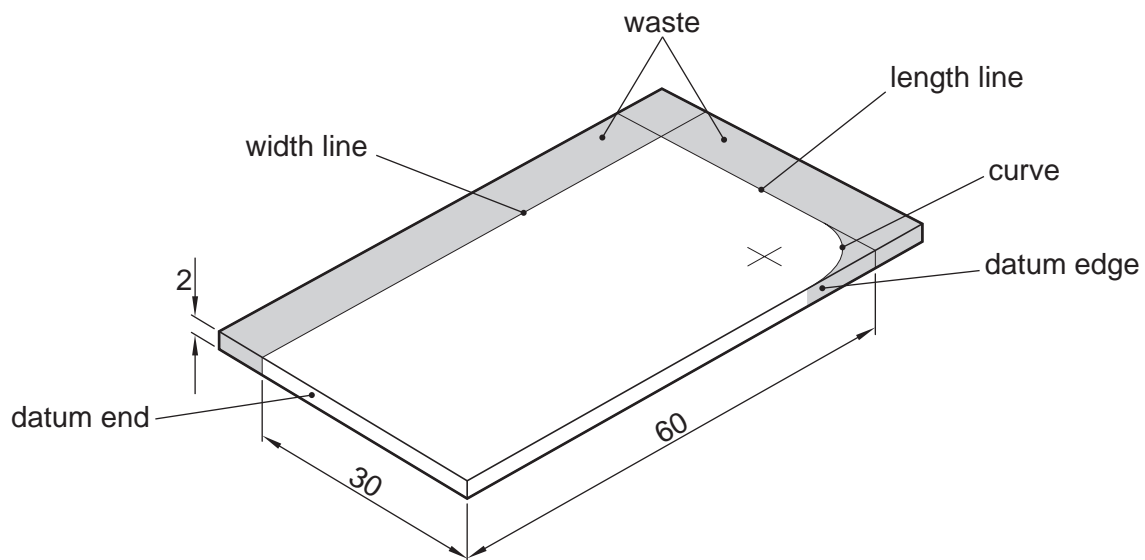

Fig. 1
- 1 Fig. 1 shows a piece of mild steel with lines which are to be worked to.